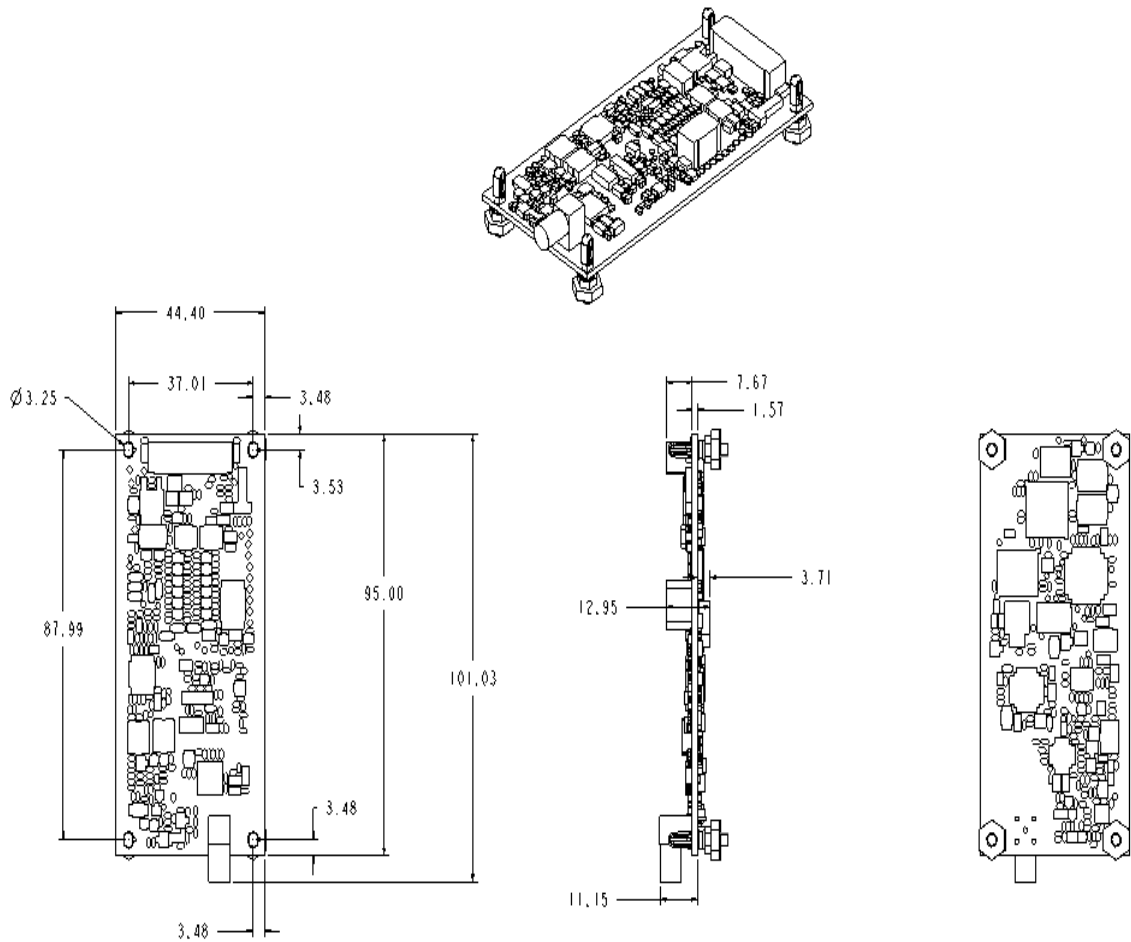

Figure 3-1
1. Use the dimensions given in Figure 3-1 (37.01 mm and 87.99 mm) to mark the mounting location.